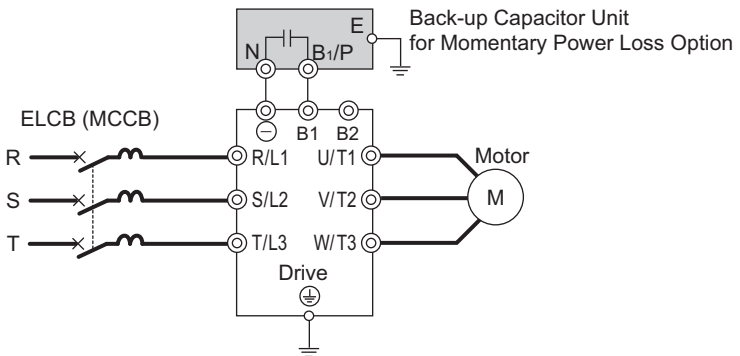
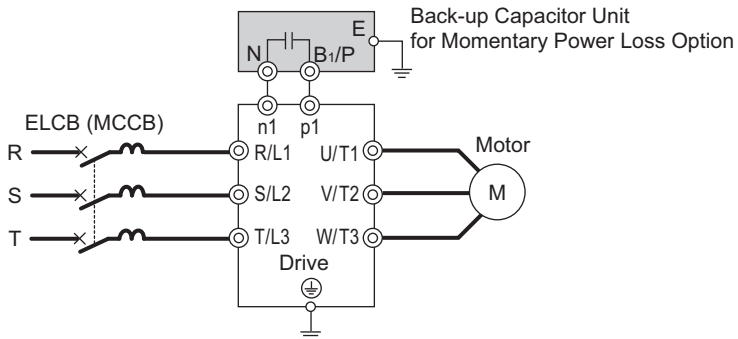

Fig. 1 Connection Diagram for Drive and Option (Example: GA700)
Fig. 2 Connection Diagram for Drive and Option (Example: U1000)
4. Connect the Back-up Capacitor Option Unit and drive as shown in Fig. 1. When using U1000 or Z1000U, refer to Fig.2. The Back-up Capacitor Option Unit uses M4 sized terminal screws. Use 2 mm²(14 AWG) or larger wires for connections.